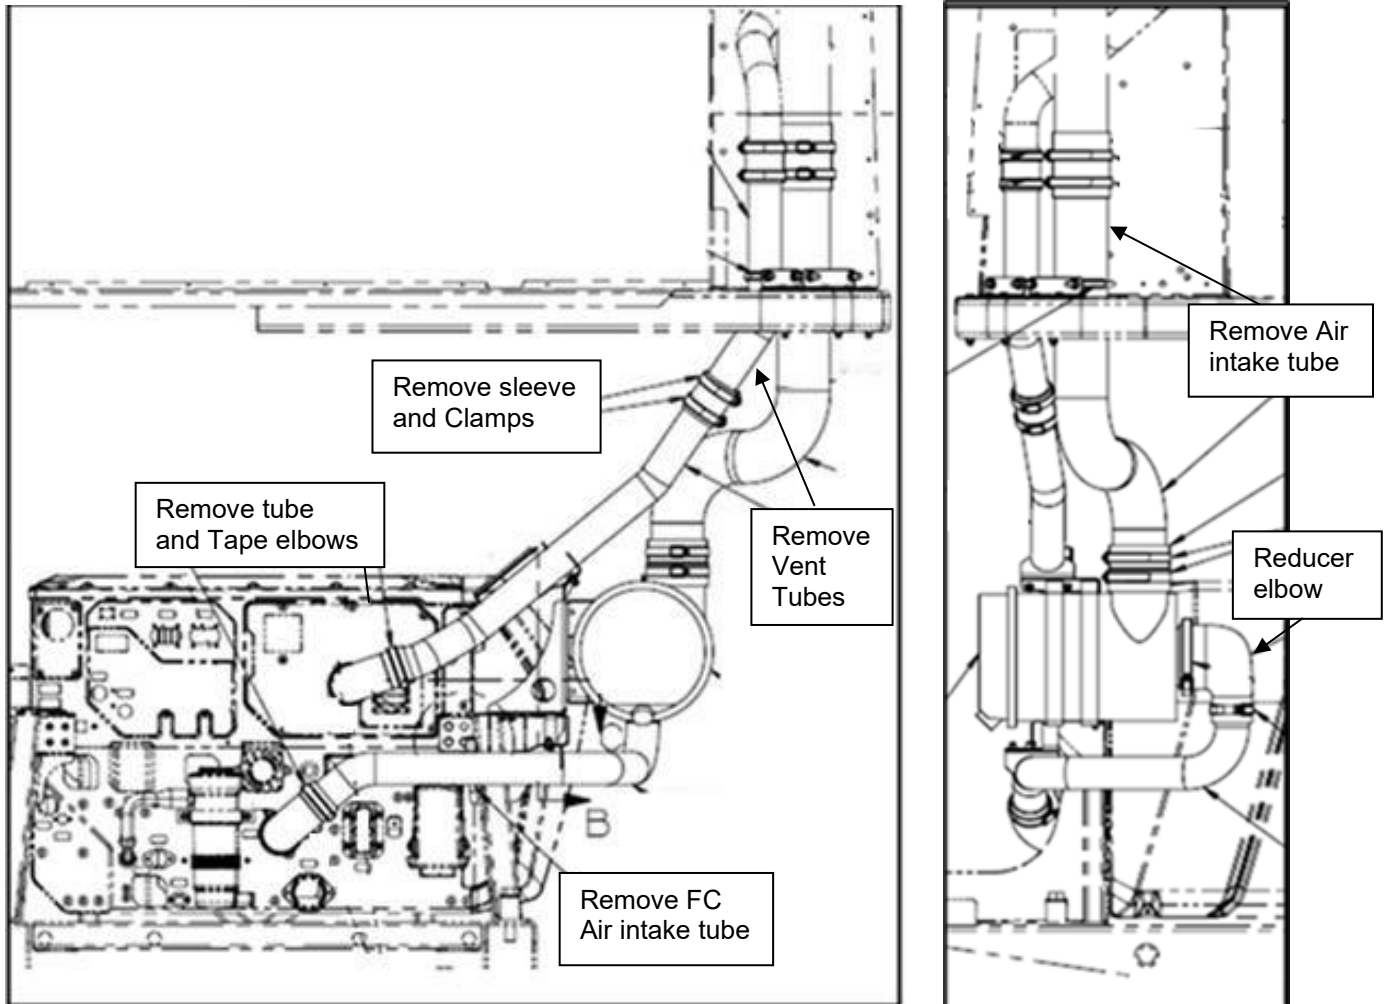

Figure 6: Air intake and vent tube location reference
12. Remove the sleeves, clamps, reducer elbow, and tubes from the air intake tube, vent tube and immediately tape both elbow at end of vent tube and intake tube to prevent entry of contaminants. set clamps aside for reinstallation. See figure 6.